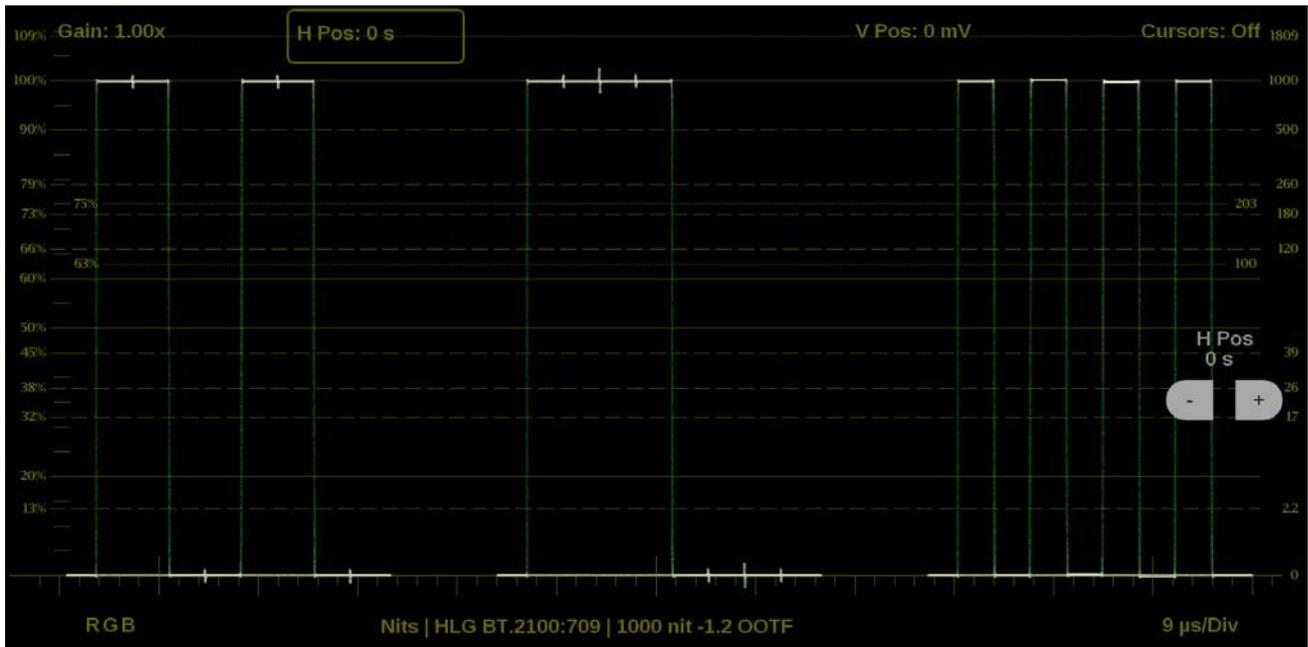

Figure 86: Waveform on-screen tools – horizontal position
1. Select the **H Pos** button to allow incremental adjustment of the horizontal trace. (See Figure 86.)